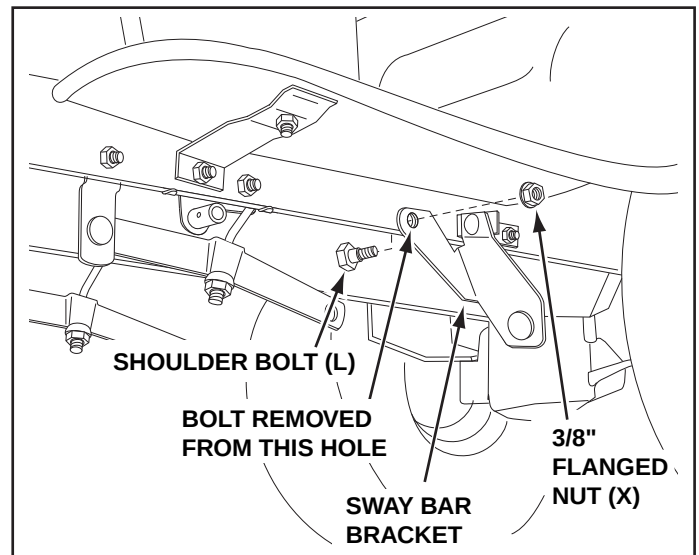

FIGURE 27
STEP 27: (SEE FIGURE 27)
- Remove the bolt, washer and nut which fasten the sway bar bracket to the L.H. side of the tractor frame. Replace with a shoulder bolt (L) and a 3/8" flanged nut (X). Bolt goes on inside of frame.